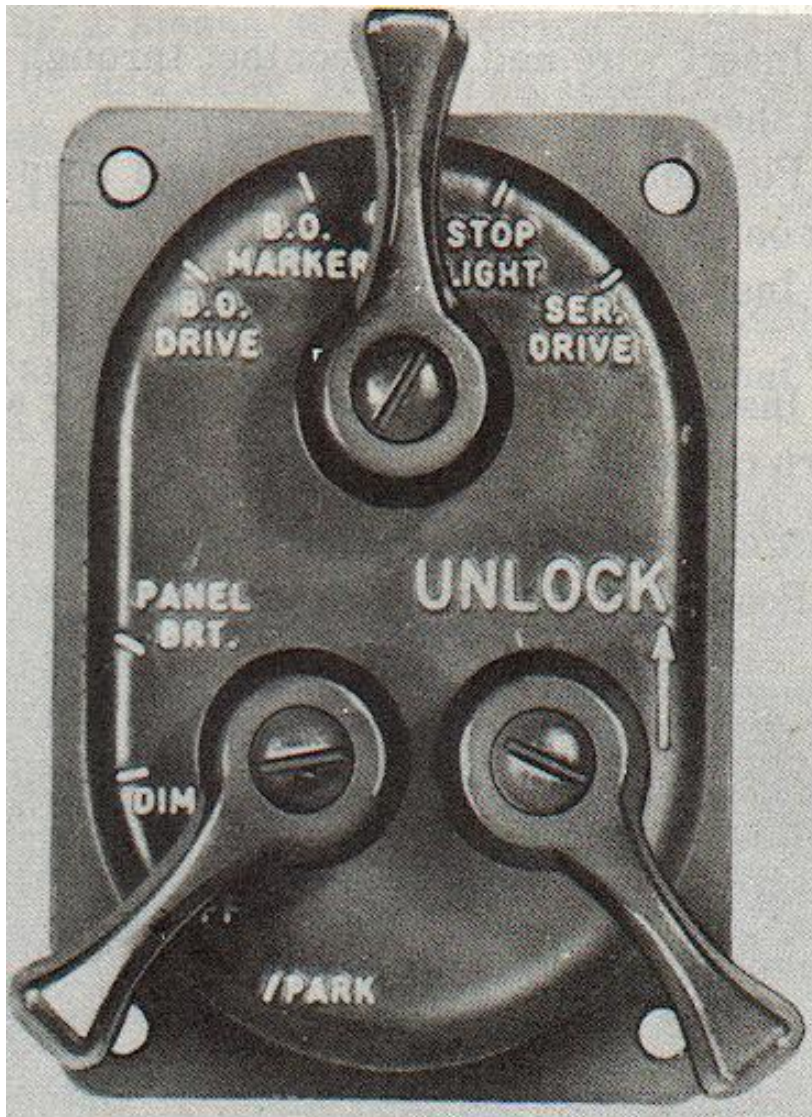

Figure 2-57. Main Light Switch.
- (1) Disconnect wiring harness connectors from stoplight switch.
- (2) Unscrew and remove switch from hydraulic line junction block.
l. Main Light Switch. (Fig 2-57)
- (1) Remove four bolts, nuts and lock washers which secure light switch to instrument panel.
- (2) Insert hand behind instrument panel and disconnect wiring harness at light switch.
- (3) Remove light switch.